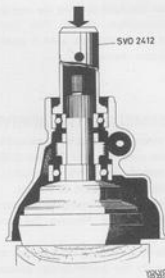

Fig. 4-61: Fitting output shaft
3. Place a wooden block under the output shaft as support. Fit the speedometer driving gear and spacer. Press on the rear casing with drift 2412, see Fig. 4-61.